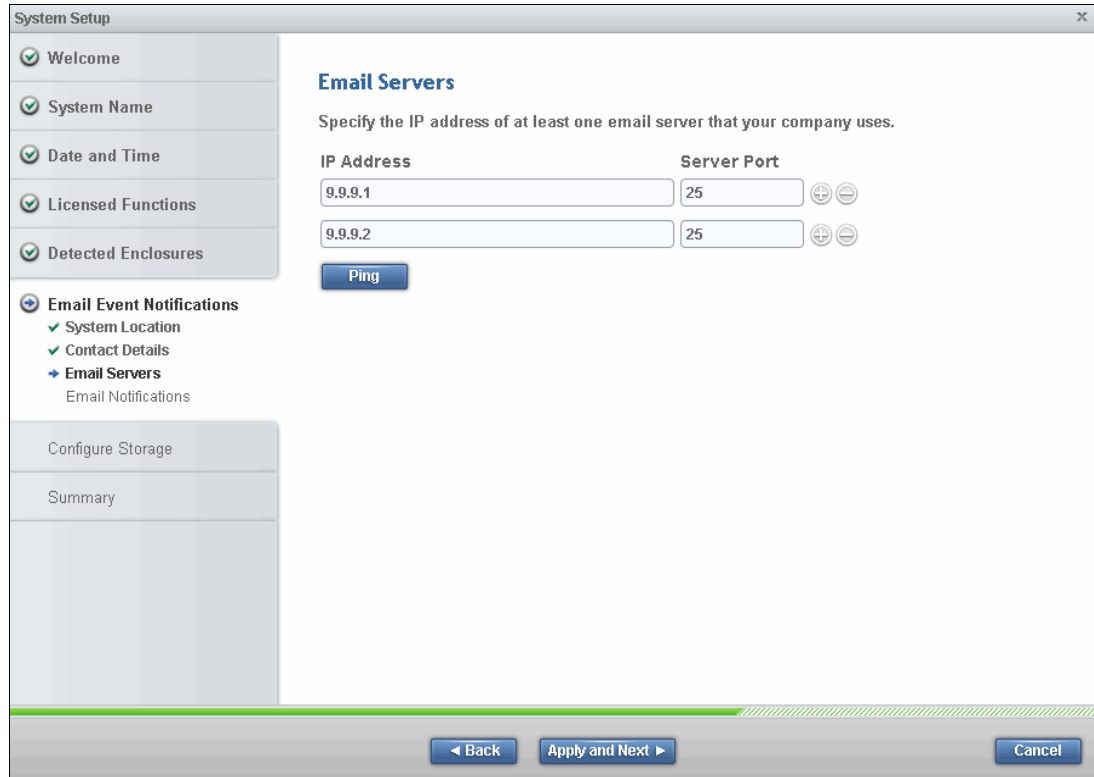

Figure 2-30 Email Servers details
13. Click the green plus (+) icon to enter more than one email server, as shown in Figure 2-30.